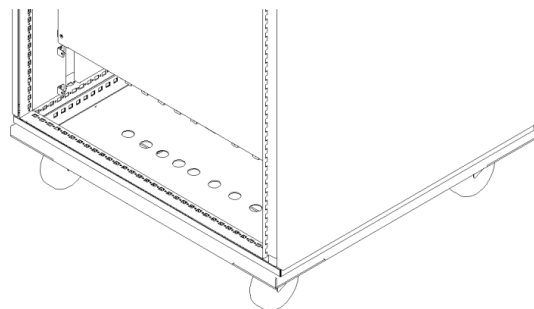

Figure 2-3 Entrance hole
Remove the bottom baffle (Figure 2-2), the user can connect the ground protection line (PE), N, AC three-phase input cables (A, B, C) and the output DC cables (DC+, DC-) into the cabinet through the holes (Figure 2-3).